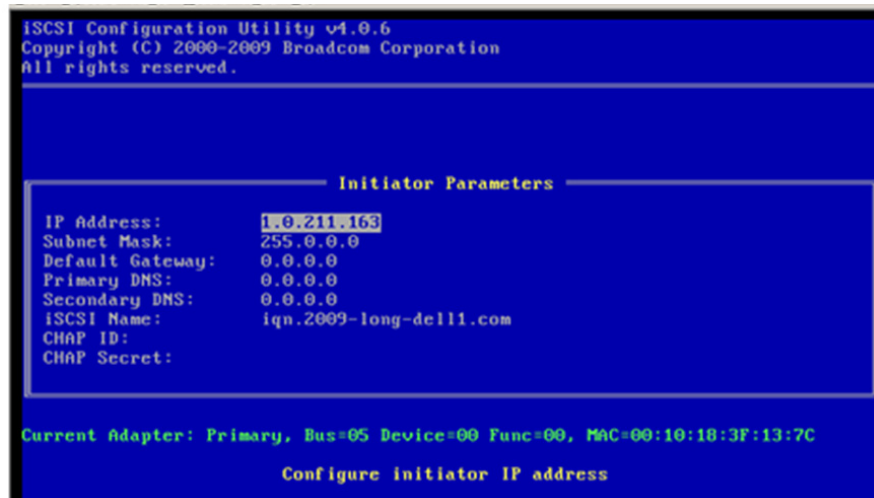

Figure 32 Setting up the Initiator Parameters
6. Set up the **Initiator Parameters**, as shown in Figure 32.
11. Set up the **Initiator Parameters**, as shown in Figure 32.